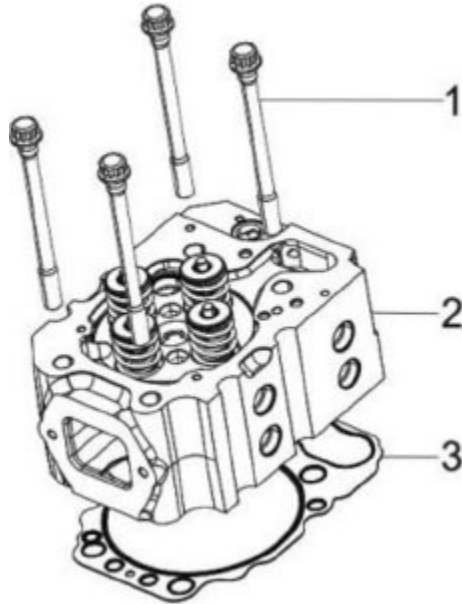

Figure 52. Cylinder Head Assembly
7. Lift all cylinder heads away from the cylinder block (Figure 52, Item 2). Discard all cylinder head gaskets (Figure 52, Item 3)